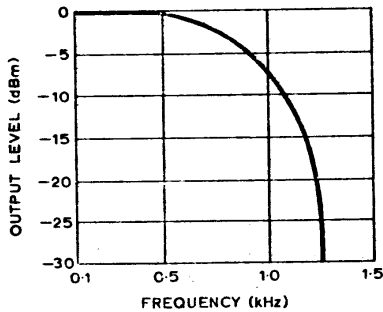

Fig. 3. The system frequency response.
9.1cm/sec and a carrier frequency of 3kHz. Fig. 3 shows the frequency response of the system. This test was made by recording an f.m. signal produced by applying tones of 5mV peak to peak from 1.0Hz to 1.5kHz to the input. This recording was then played back and the demodulated signals were measured with an oscilloscope. A d.c. test was made by applying d.c. levels from -5mV to +5mV to the input. On playback the linearity error of the reproduced levels was less than 0.5%.